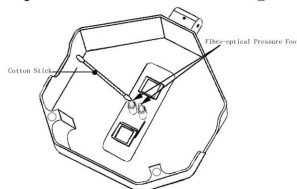

Fig4-3 Cleaning Fiber Press Stand
(1) Open up the wind protector
(2) Clean press stand surface with an alcohol-impregnated thin cotton swab as shown in Fig4-3. Remove excess alcohol from the press stand surface with a clean dry swab.